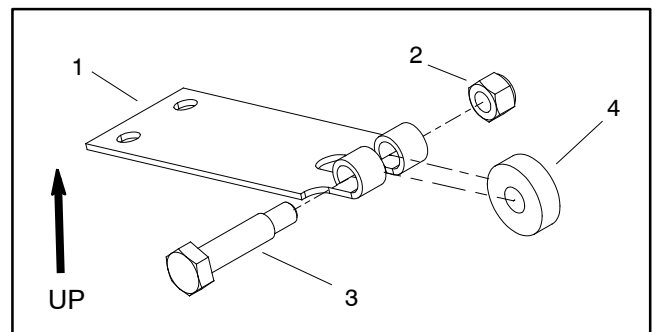

Figure 11
5. Remove two (2) cap screws (item 21) and flange nuts (item 22) that secure leaf spring to motor bracket. Remove leaf spring assembly and flat washers (item 5) from bracket. If necessary, remove bearing from leaf spring (Fig. 11).
5. If bearing was removed from leaf spring (Fig. 11), position bearing to leaf spring and secure with shoulder bolt and lock nut.